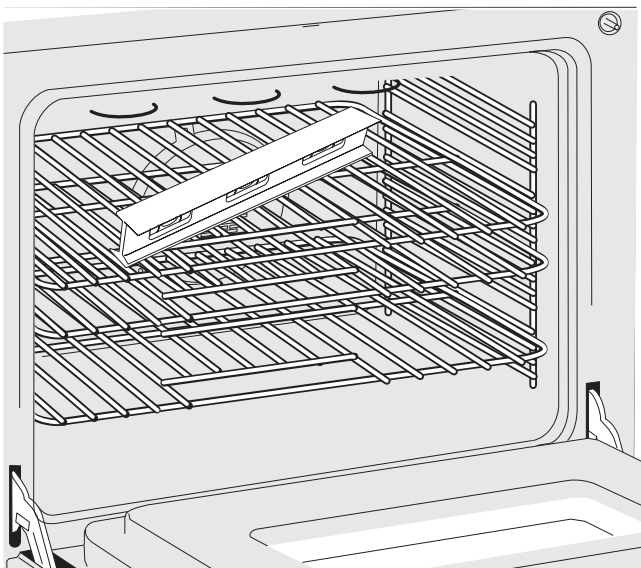

Figure 7
2. Place a level on the rack (see Figure 7). Take 2 readings with the level placed diagonally in one direction and then the other. Level the range, if necessary, by adjusting the 4 leveling legs with a wrench (see page 9).